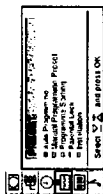

Fig. 3
- 1 Select the symbol  for "Preset" with $\Delta+$ or $\nabla-$ and press OK. The PRESET menu appears. (See Fig. 3.)